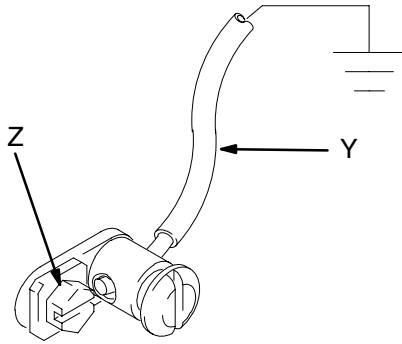

Fig. 1
1. *Pump*: use the ground wire and clamp (supplied) as shown in Fig. 1. Remove the ground screw (Z) and insert through the eye of the ring terminal at end of ground wire (Y). Fasten the screw back onto the pump and tighten securely. Connect the other end of the wire to a true earth ground.